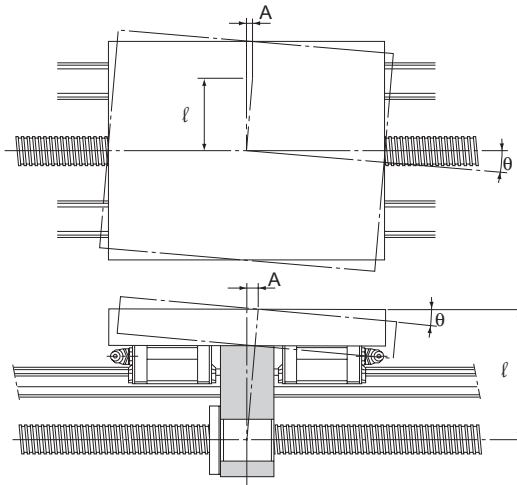

Fig.12
- $\ell$  : Vertical (or horizontal) distance from the ball screw center (mm) (see Fig.12)